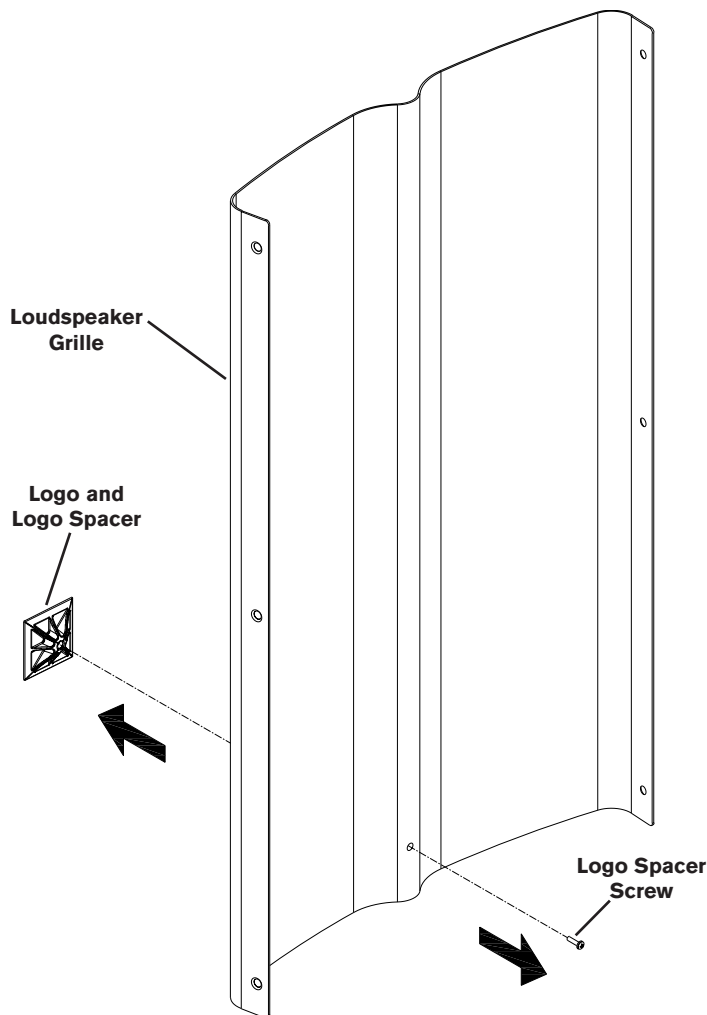

Figure 11:
2. Remove the (1) screw on the back of the grille that attaches the spacer to the grille (Figure 11).
4. Reattach the spacer to the grille using the (1) screw (reverse of Figure 11). Be sure that the screw is tight enough so as not to rattle during use, but not so tight the logo warps inward.